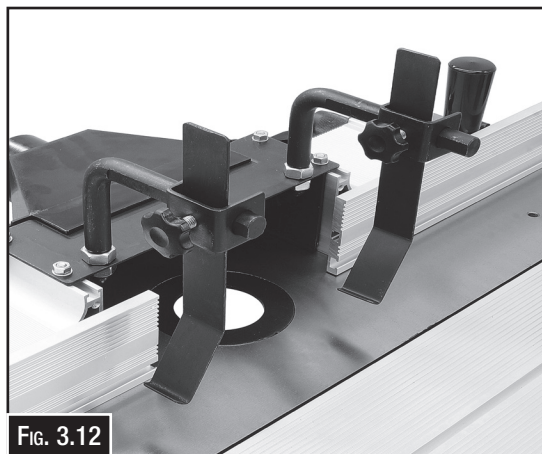

Fig. 3.12
1. Attach the work clamp mounts (#16) to the fence assembly bracket using the two nuts pre-installed to the work clamp mounts and securing into the two holes on top of the fence assembly bracket. Ensure the mounts are secured at 90° to the bracket. Place the work clamps into the mounts. (Fig. 3.12), so the angled parts of the clamp are facing to the left.